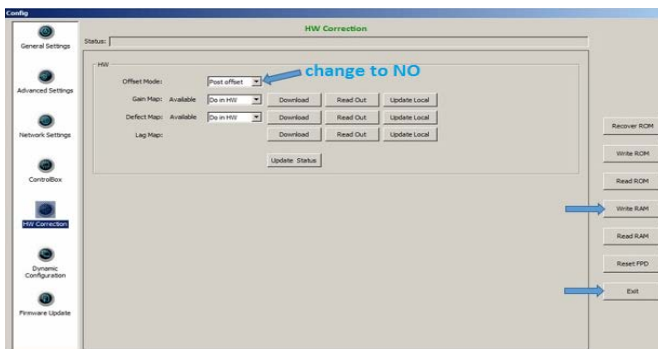

Figure 12: HW Correction Settings
6. Click **Write RAM** to save changes. Gain and Defect Map settings changes to “Do in SW” (Figure 12).
7. Click **Exit** to exit the Config settings window (Figure 12).